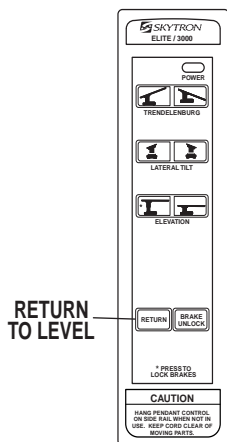

Figure 2-7. Return To Level
e. Return To Level. To return the table top to a level position, press the RETURN button (figure 2-7).